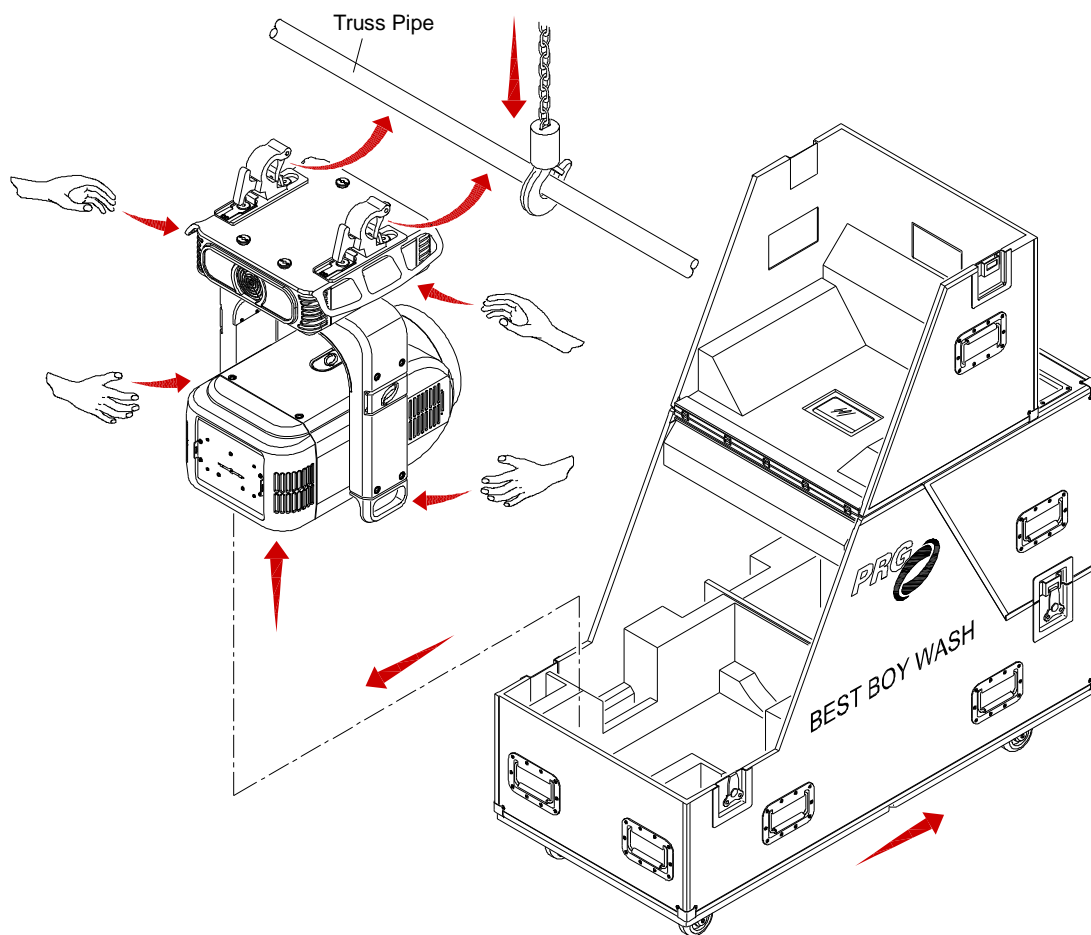

Figure 2-5: Removing Luminaire From Case
- Step 2. Roll case to mounting location as required (Figure 2-5).